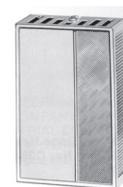
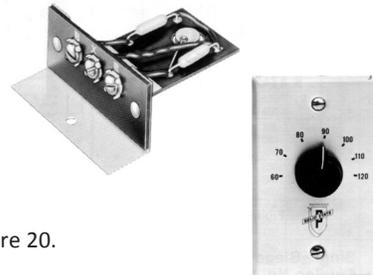

Figure 15.
Figure 20.
- A choice of room thermostat, page 12, Figure 15 or 16; duct thermostat, page 13, Figure 20 or 21; built-in PE transducer, page 13, Figure 17; or field inputs of 135 ohms, 2200 ohms, 0-10 VDC and 4-20mA are available.